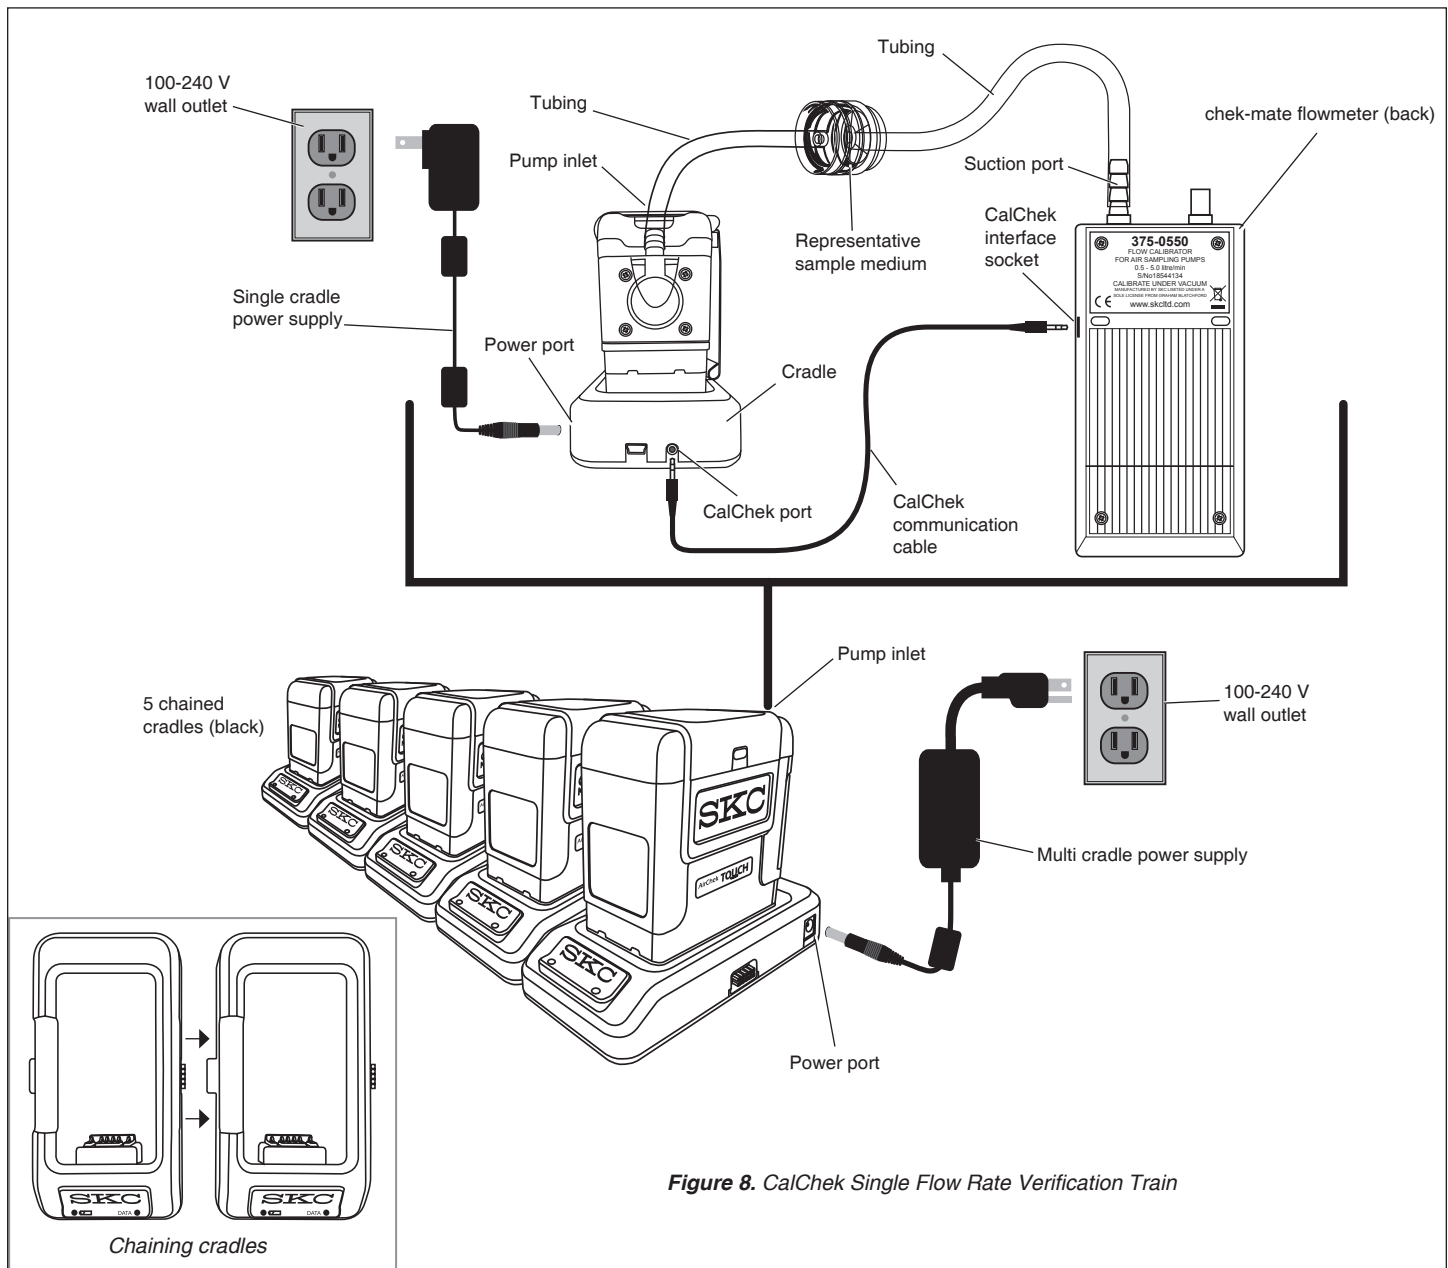

Figure 8. CalChek Single Flow Rate Verification Train
2. Set up a flow rate verification train (see Figure 8).
4. Ensure flow rate verification train is in place (see Figure 8). Touch checkmark to accept CalChek selection.